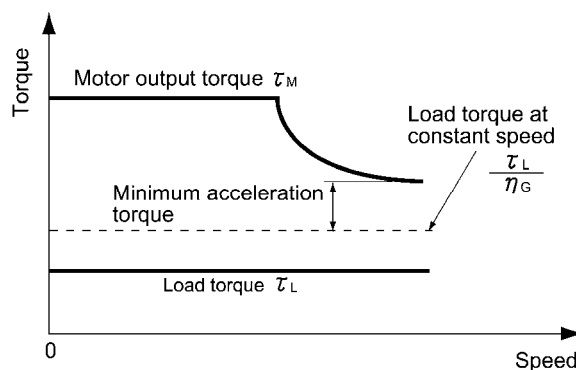

Figure 9.3 Example Study of Minimum Acceleration Torque
- 2) Calculate the minimum acceleration torque (See Figure 9.3)